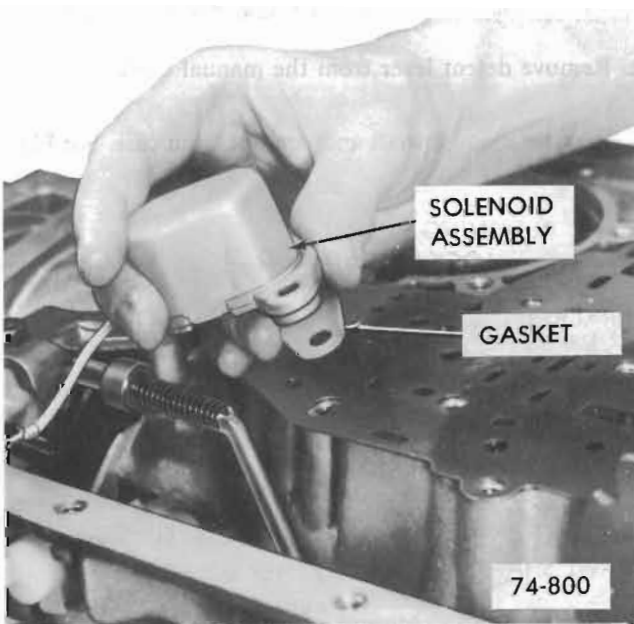

Figure 76-69
6. Remove detent solenoid attaching bolts, solenoid assembly, and gasket. See Figure 76-69.